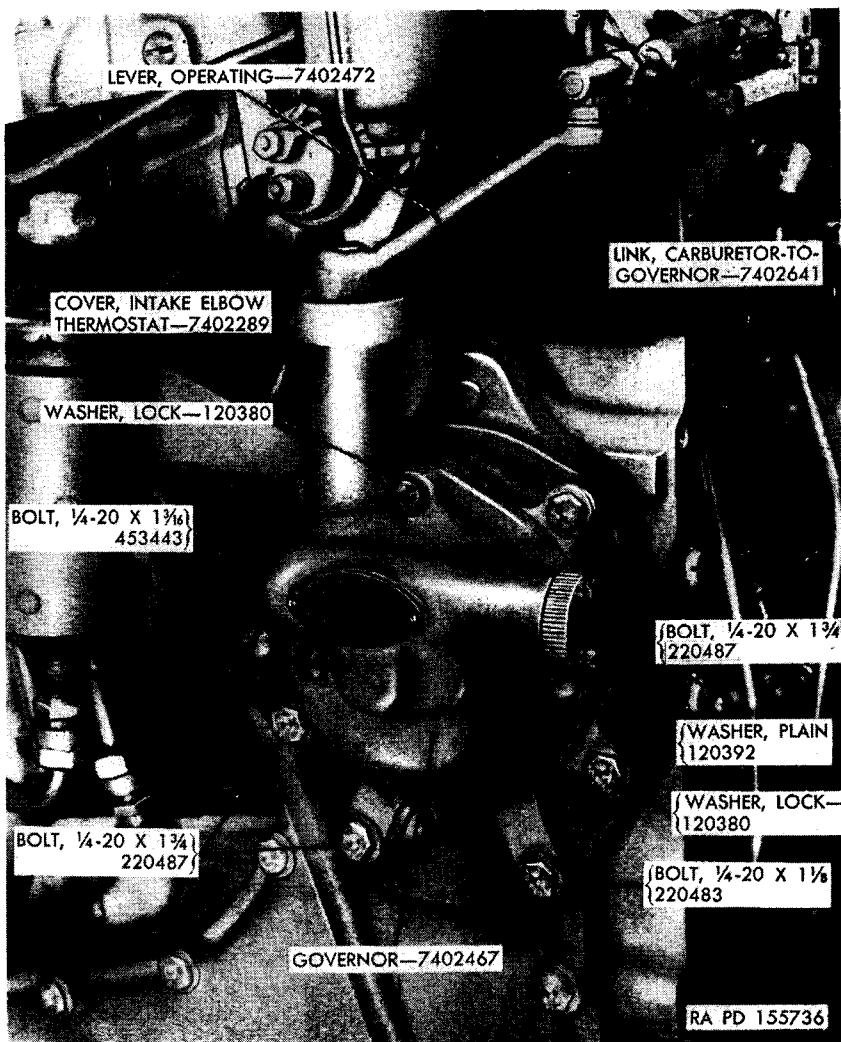
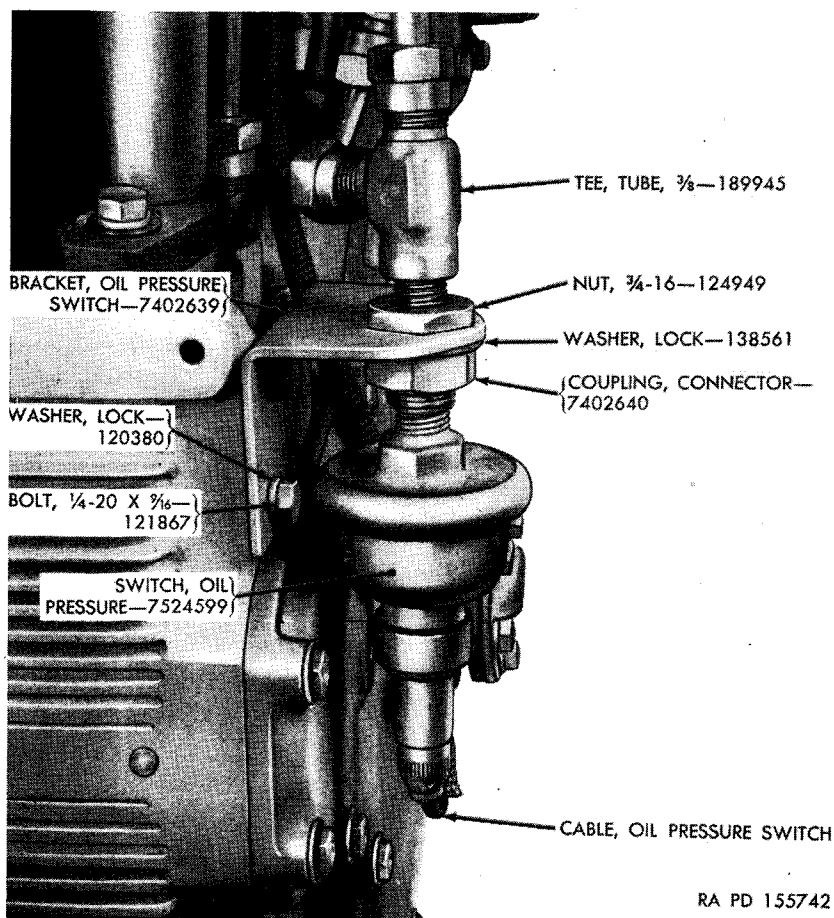

Figure 20. Governor.
Figure 26. Oil-pressure switch.
o. GOVERNOR. Engine speed is controlled by a flyball weight and spring-type governor (figs. 20 and 77) which is gear driven from the main gear train. This governor controls the engine speed by varying the throttle opening to suit the load imposed on the engine. A vernier adjustment is provided on the spring for final speed adjustment.
d. Disconnect control-switch-receptacle-to-intake-elbow-thermostat cable from lower terminal of intake-elbow-thermostat cover (figs. 20 and 110) and control-switch-receptacle-to-oil-pressure-switch cable from bottom of oil pressure switch (figs. 26 and 110).
a. Remove one $\frac{1}{4}$ -20 x $1\frac{1}{8}$ bolt and three remaining $\frac{1}{4}$ -20 x $1\frac{1}{4}$ bolts, lock washers, and plain washers securing governor to engine front cover (fig. 20) and remove governor and gasket (fig. 34).
a. Remove two $\frac{1}{4}$ -20 x $\frac{5}{16}$ bolts and lock washers securing oil-pressure-switch bracket to crankcase (fig. 26).